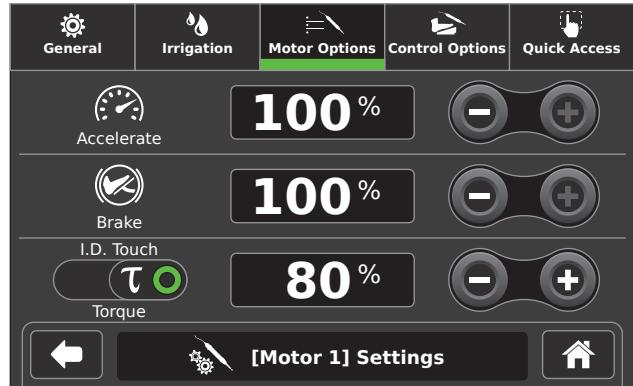

Figure 23 – Motor Options Screen
3. Adjust settings as necessary (Figure 23).